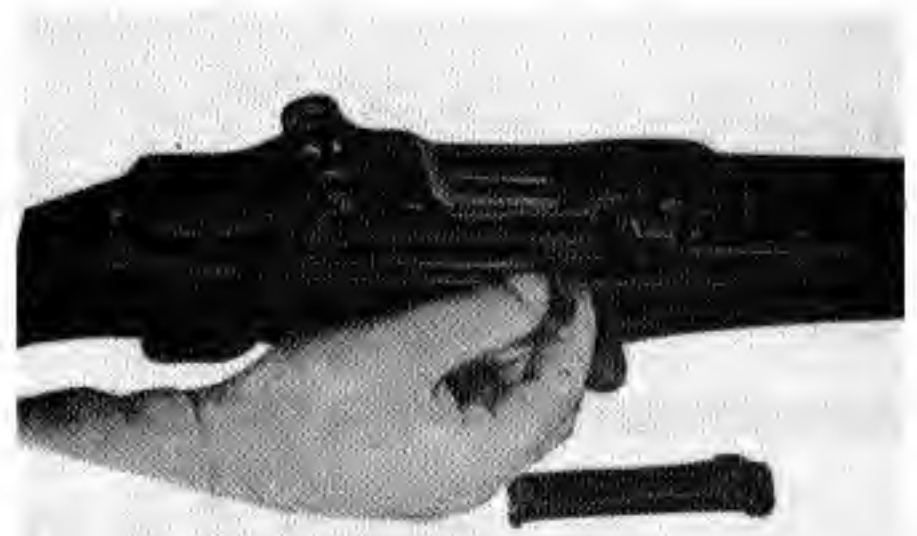

Fig. 97. Checking headspace with test bolt and headspace gage.
(2) The most accurate method of taking headspace is with the operating rod removed, and the reading taken while rotating the bolt lug by hand. If it is found that the headspace of the rifle is over 1.950 inches, check the rifle with the field test bolt (Fig. 97). This will determine whether the excessive headspace is caused by a worn bolt or a worn barrel and receiver assembly. If the field test bolt will not close on a 1.950-inch headspace, the bolt is worn and must be replaced; if the field test bolt will close on a 1.950-inch headspace, the barrel and receiver assembly is worn and must be replaced.